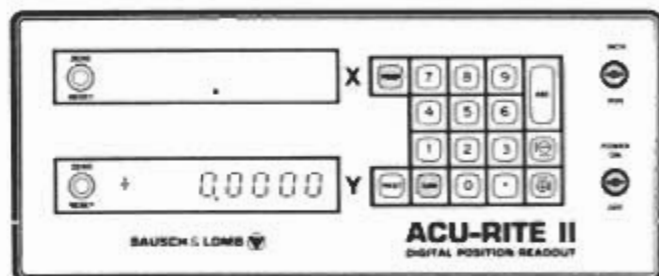

Figure 3-9. Console Status: Clearing Preset and Display
- Push the CLEAR key to clear any previous number from the preset memory. The display will blank out except for the decimal point (see Figure 3-9).